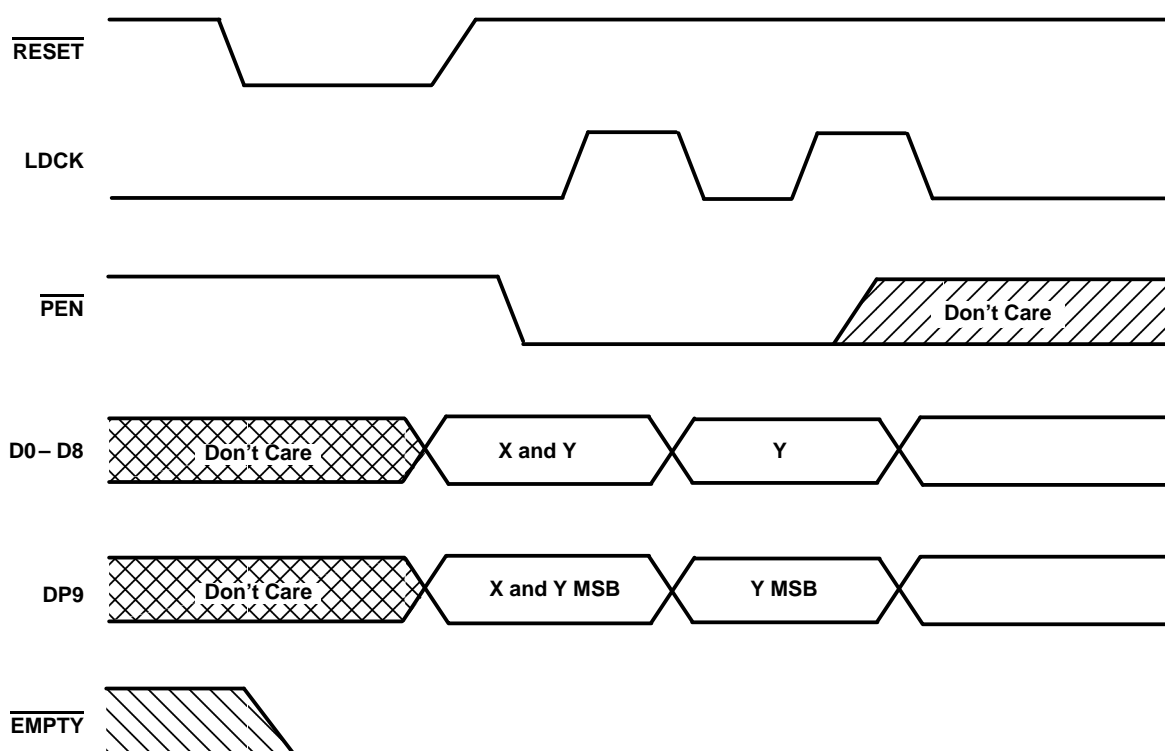

Figure 1. Programming X and Y Separately
To program the offset values, program enable (\overline{PEN}) can be brought low after reset only when LDCK is low. On the following low-to-high transition of LDCK, the binary value on D0–D8 and DP9 is stored as the almost-empty offset value (X) and the almost-full offset value (Y). Holding \overline{PEN} low for another low-to-high transition of LDCK reprograms Y to the binary value on D0–D8 and DP9 at the time of the second LDCK low-to-high transition. Writes to the FIFO memory are disabled while the offsets are programmed. A maximum value of 1023 can be programmed for either X or Y (see Figure 1). To use the default values of $X = Y = 256$, \overline{PEN} must be held high.